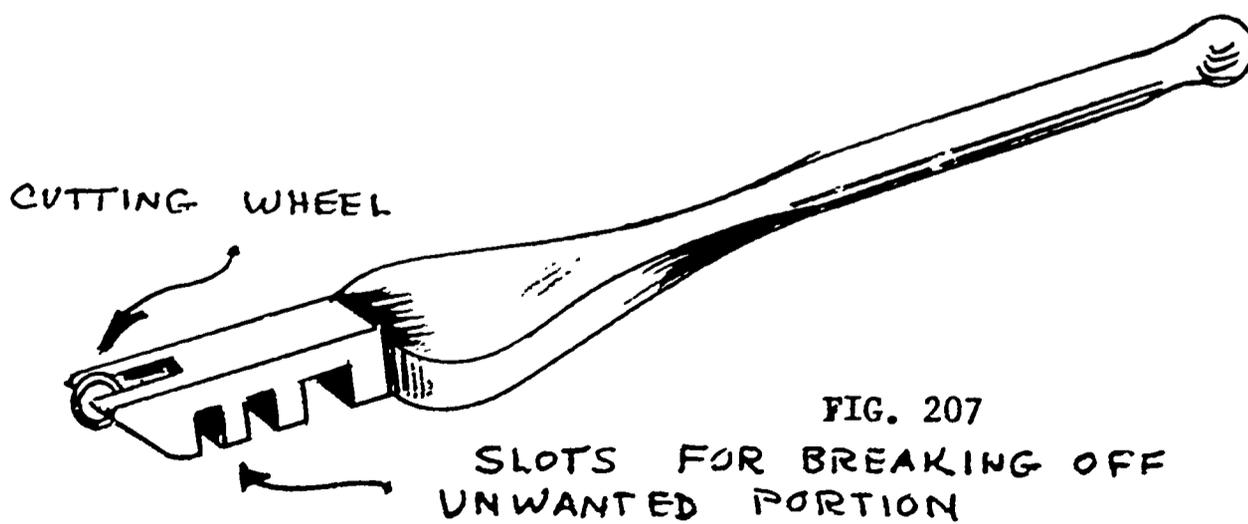

FIG. 207
3. A glass cutter is a small metal instrument used for scoring the glass and breaking off the unusable portion. It consists of a cutting edge (diamond, carborundum). The cutting edge is usually a small wheel  $1/8''$  diameter. The outer edge also has two or three square seated grooves for gripping various thicknesses of glass --  $1/16''$ ,  $1/8''$ ,  $3/16''$ . On the opposite end from the cutter is a round ball to be used for tapping or causing the glass to crack along the scored line. See figure 207.